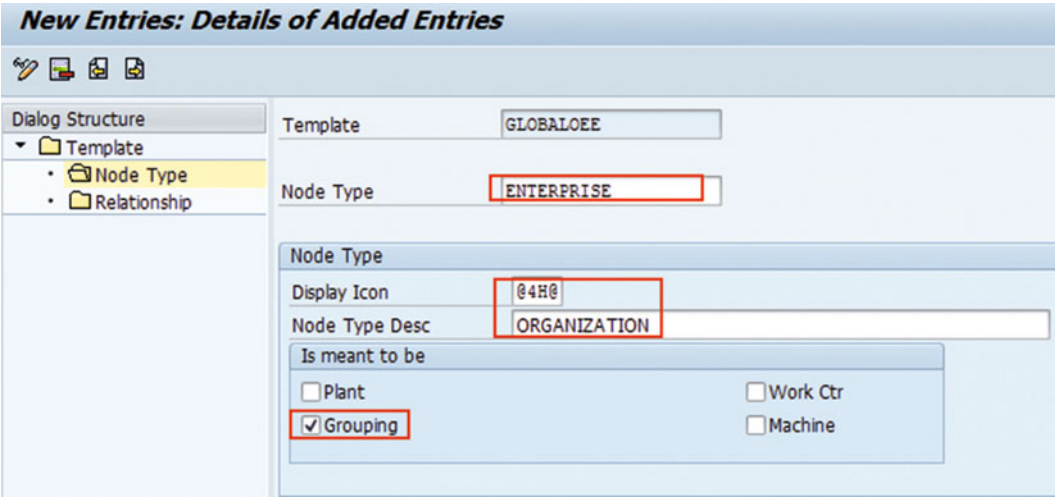

Figure 3-22. Configure global hierarchy template with node type Enterprise (Level 1)
3. Check “Grouping” checkbox. This signifies that the node type is not assigned to any work center, machine, or plant for planning or maintenance purposes. Hence, except for node type plant, all the other node types of a global hierarchy will have the “Grouping” checkbox checked (refer to Figure 3-22).